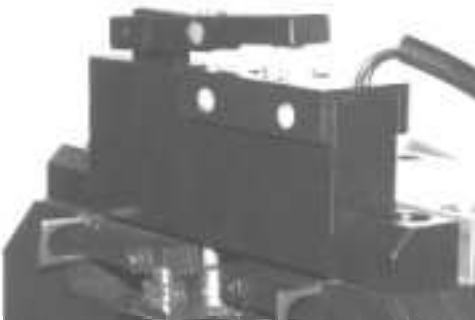

Fig. 14 OCT trip target
- OC TRIP TARGET (Code 10) - a potential free, NO contact mounted at the top of the OCT [Fig. 14]. Provides a signal when OCT trips.